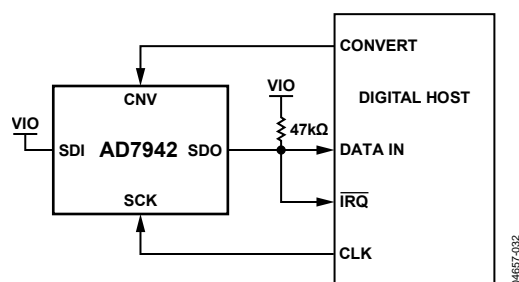
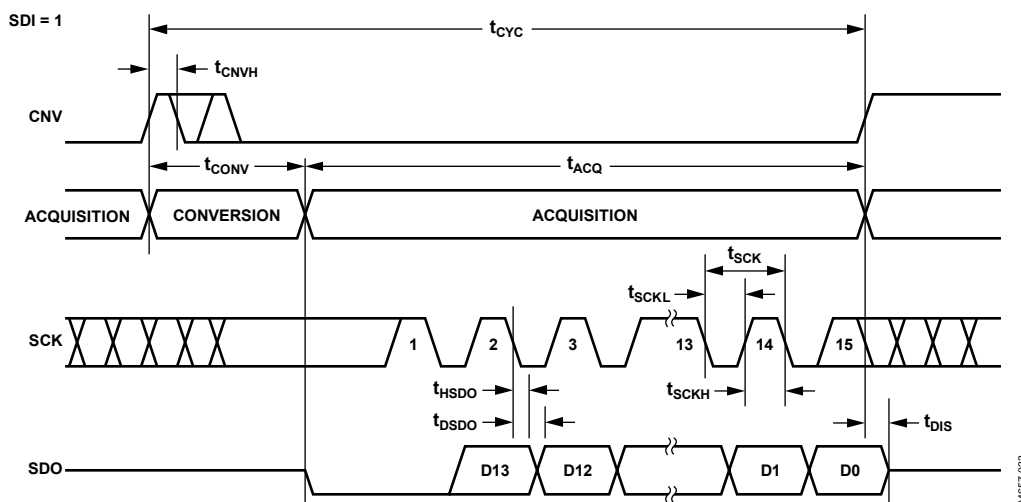
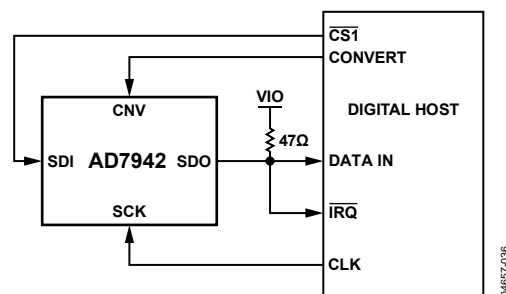
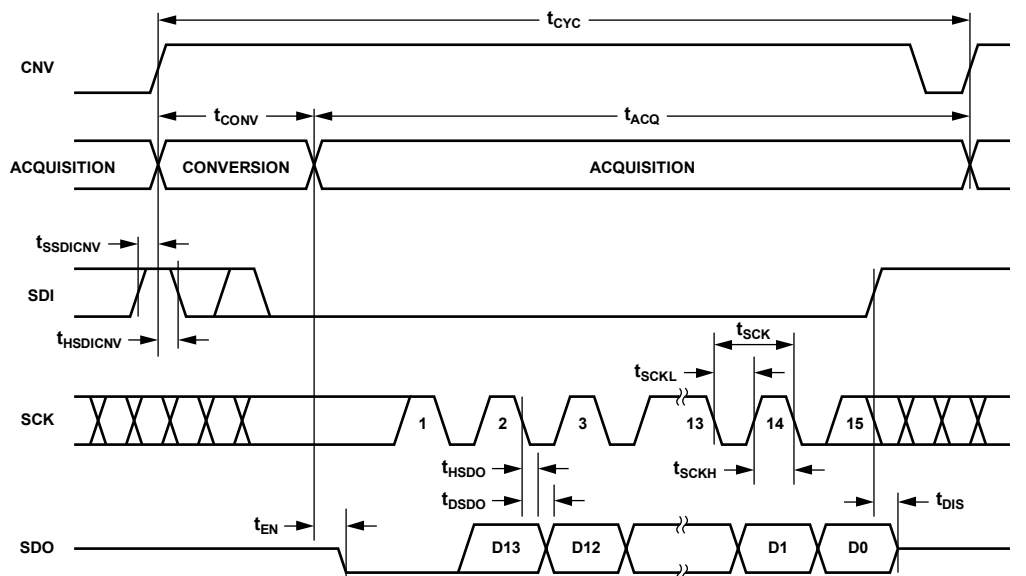

Figure 32.  $\overline{CS}$  Mode 3-Wire with Busy Indicator Connection Diagram (SDI High)
Figure 33.  $\overline{CS}$  Mode 3-Wire with Busy Indicator, Serial Interface Timing (SDI High)
Figure 36.  $\overline{CS}$  Mode 4-Wire with Busy Indicator Connection Diagram
Figure 37.  $\overline{CS}$  Mode 4-Wire with Busy Indicator, Serial Interface Timing
- In the  $\overline{\text{CS}}$  mode, if CNV or SDI is low when the ADC conversion ends (see Figure 33 and Figure 37).
This mode is most often used when a single AD7942 is connected to an SPI-compatible digital host with an interrupt input. The connection diagram is shown in Figure 32 and the corresponding timing diagram is shown in Figure 33.
This mode is most often used when a single AD7942 is connected to an SPI-compatible digital host with an interrupt input and to keep CNV (which is used to sample the analog input) independent of the signal used to select the data reading. This requirement is particularly important in applications where low jitter on CNV is desired. The connection diagram is shown in Figure 36 and the corresponding timing diagram is given in Figure 37.